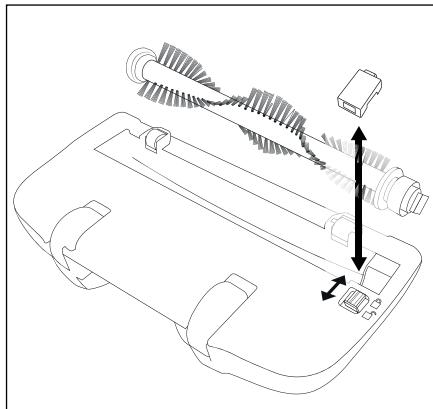

Fig. 5
- 2) Push the catch on the cover plate towards the  symbol and remove the cover plate (Fig. 5).
- 7) Reattach the cover plate until it clicks firmly into place. The cover plate locks automatically as the latch moves towards the  symbol (Fig. 5).